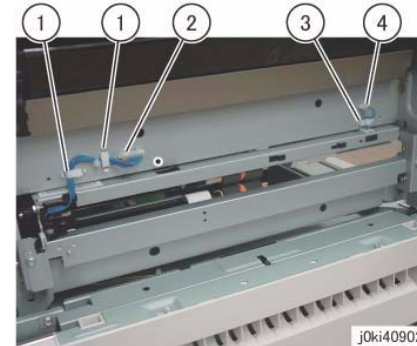

Figure 2 Disconnect the connector
7. Disconnect the connector. (Figure 2)